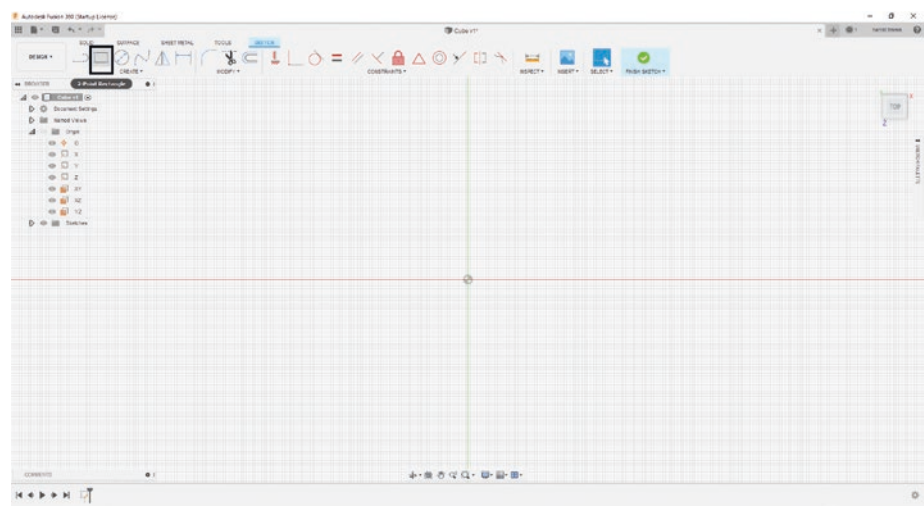

Figure 3-41. Select a two-point rectangle from the “SKETCH” tab
4. Now select the Rectangle tool under the “SKETCH” tab. See Figure 3-41.